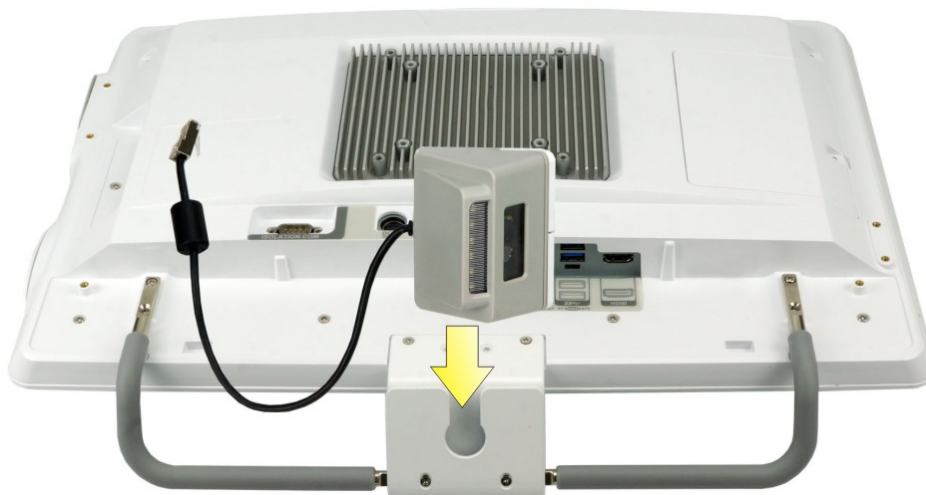

Figure 3-12: Insert Barcode Reader Set
Step 2: Insert the barcode reader set into the slot in the center of the handle. To be able to insert the barcode reader, the side with barcode reader must face toward the right side of the BIS-W19C(F)-ULT4 as shown in **Figure 3-12**.